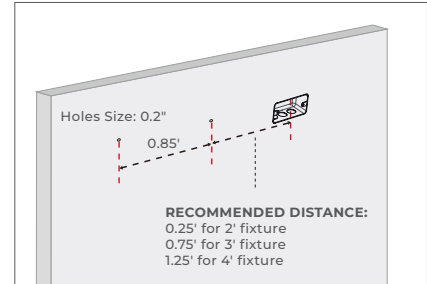

FIGURE 1-2
- 2) Prep mounting surface as shown in Figure 1-2.